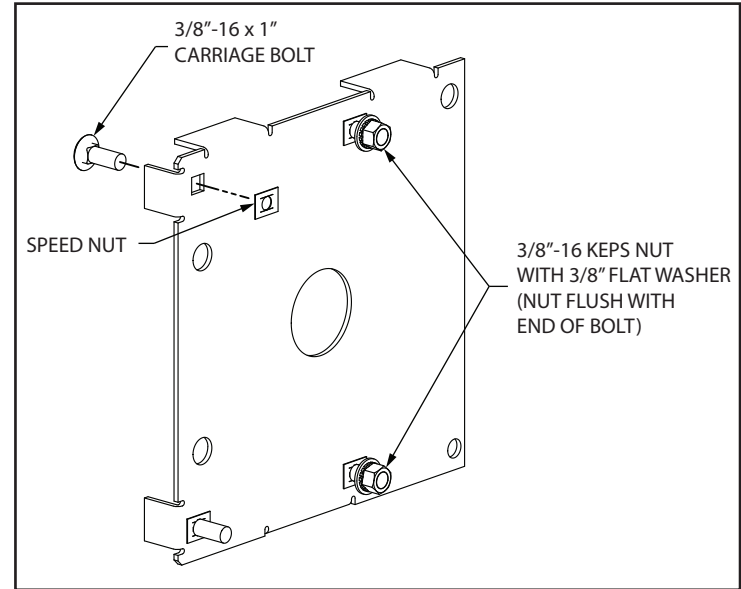

Figure 1
- 1) Insert four(4) 3/8"-16 x 1" carriage bolts into headplate. **FIG. 1.**